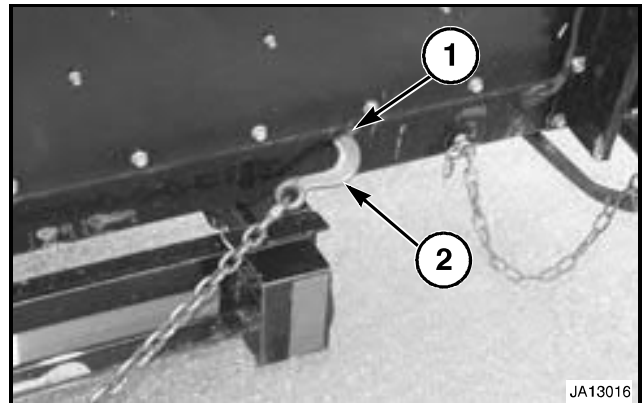

FIG. 32
FIG. 32: One lower outer end rear tie-down (1) is located at Right Hand and Left Hand outer ends of lower frame. Insert hook (2) into lower frame slot as shown in FIGURE.